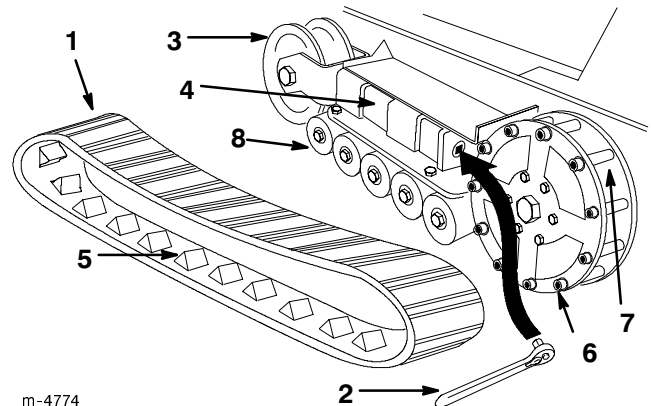

Figure 33
5. Push the tension wheel toward the rear of the unit to move the fork tube against the frame (Fig. 33). (If it does not touch the frame, continue turning the tensioning screw until it does.)
7. When the track is off of the tension wheel, remove it from the drive sprocket and road wheels (Fig. 33).
8. Beginning at the drive sprocket, coil the new track around the sprocket, ensuring that the lugs on the track fit between the spacers on the sprocket (Fig. 33).
9. Push the track under and between the road wheels (Fig. 33).